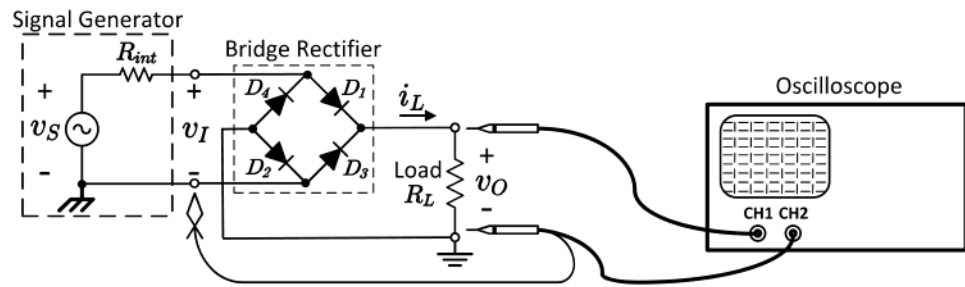
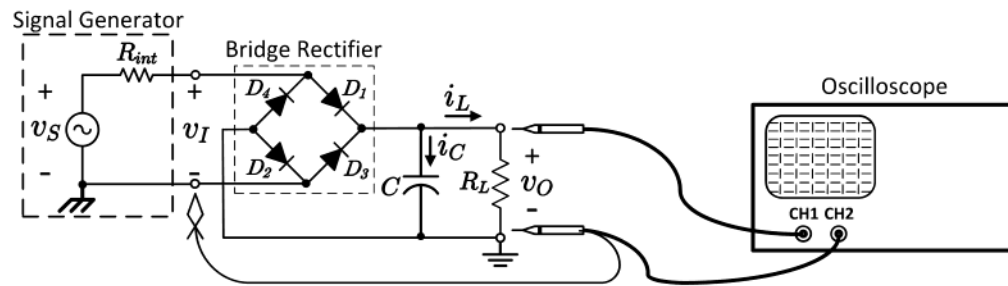

Figure 5. Differential monitoring of the output voltage waveform in the bridge rectifier.
Figure 6. Bridge rectifier with smoothing capacitor.
- E2. Turn off the signal generator and replace the four red LEDs with **1N4148** diodes. Also, replace the green LED with a wire such that only the $1\text{-k}\Omega$ resistor is left as the load R_L . Now assume that you want to monitor the output voltage, v_O , of the bridge rectifier. Since **the oscilloscope and the signal generator share a common ground** (through the ground wiring of the power system), connection of the oscilloscope's ground probe to the negative terminal of the output port of your circuit (i.e., to the ground of your circuit, \perp), as shown in **Figure 5**, is problematic (what is the problem? You simulated such a scenario in **Step P3**). Therefore, v_O must be monitored differentially, i.e., using two probes, as shown in **Figure 6**.
- E3. Disconnect the signal generator (do not change its frequency or magnitude setting), and supplement the circuit of **Figure 5** by adding a **1- μF** polyester capacitor across the output terminals, as shown in **Figure 6**. With $R_L = 5.6 \text{ k}\Omega$, connect the signal generator and capture the waveform of v_O (differentially) for about three cycles and save the waveform as **Graph E3(a)**. Next, set both oscilloscope input channels in the **AC-coupled mode**, increase their the voltage per division gains sensibly (make sure that both channels have the same volt per division gains), and capture the fluctuating component (i.e., ripple) of v_O . Save the waveform as **Graph E3(b)** for three cycles. From the captured waveform, note down the peak-to-peak output voltage ripple of the rectifier. Also, use your bench-top multimeter in the DC voltage measurement mode and measure the DC output voltage. Record the results in **Table E3**.